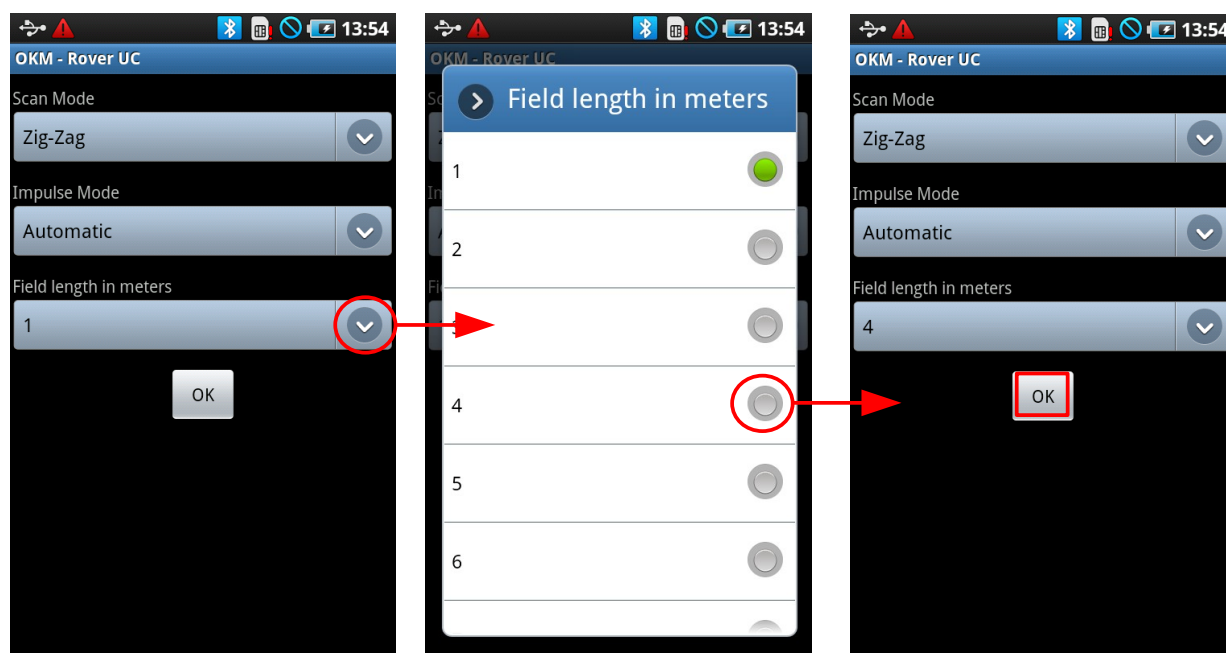

Figure 9.2: Adjusting scan parameters
Align yourself with the start point ❶ of the scan area. Be sure that the telescopic antenna and the smart phone are powered on. Open up the application "OKM - Rover UC" and select the "3D Ground Scan" option. The parameter menu will now be open as shown in figure 9.2.